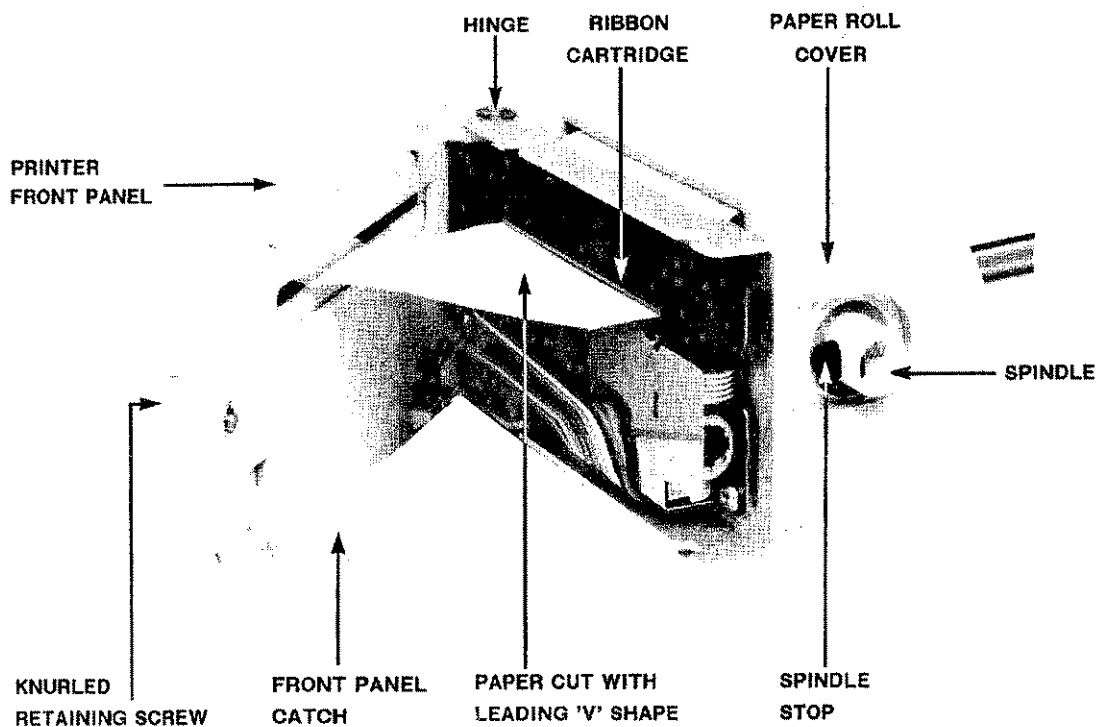

Figure 8-4 Internal Printer
Use the following procedure (see Figure 8-4) to fit a new roll.
6. Ensure that the end of the paper is cut clean and square or in a leading "V" shape (see Figure 8-4).
Use the following procedure (see Figure 8-4 ) to fit a new ribbon:
3. Gently push back the printer Front Panel Catch and open up the printer assembly as shown in Figure 8-4.